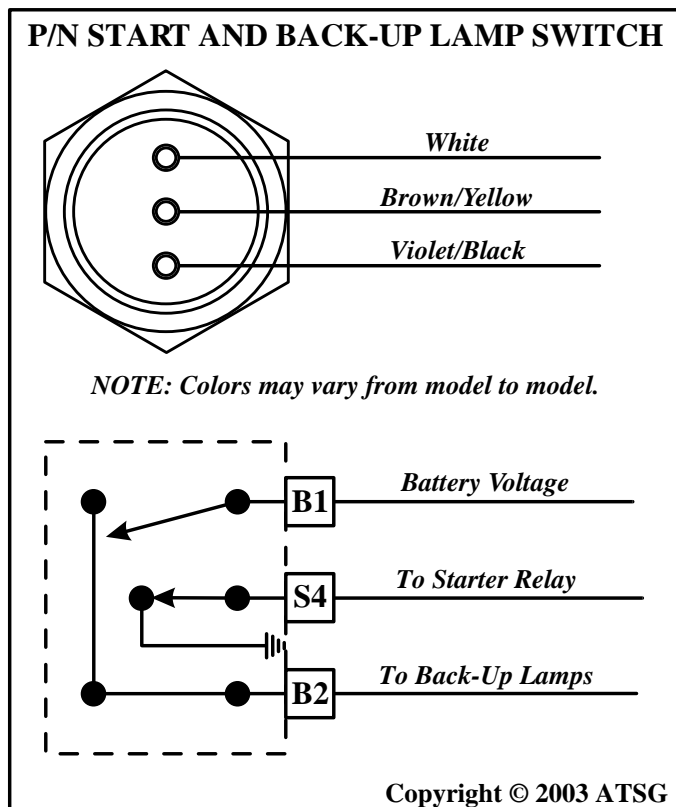

Figure 19
The Park/Neutral starting switch is the center terminal of the 3 terminal switch (See Figure 19). The center terminal provides a ground for the starter solenoid circuit through the internal selector lever in only **Park** and **Neutral** positions.
- (1) Two different tests will be necessary to test the integrity of the switch. To test switch, remove the harness connector from switch and test for continuity between the center pin of switch and transaxle case. Continuity should exist only when transaxle is in **Park** or **Neutral**. Refer to Figure 19 for schematic.
- (2) Check manual lever cable adjustment **before** replacing a switch that tests defective.
- (3) To test the reverse circuit, continuity should exist between the two outside pins of switch. Continuity should exist only when transaxle is in **Reverse**. No continuity should exist from either pin to the transaxle case. Refer to Figure 19 for schematic.